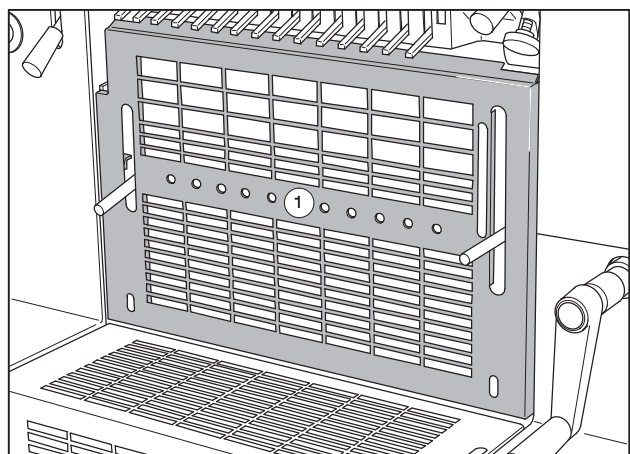

Fig. 28 Inking unit guard
3. Spray washing fluid onto the inserted washing fluid pipe through the openings in the inking unit guard (Fig. 28/1).